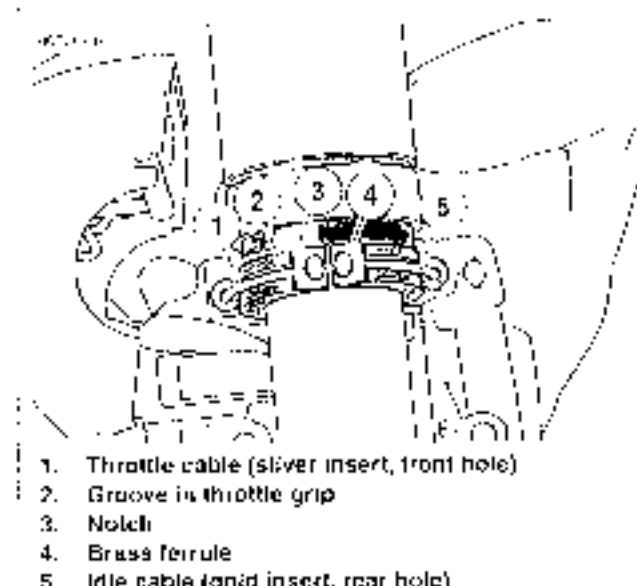

Figure 2-111. Throttle Cable Attachment
4. See Figure 2-111. Pull the cables from the housing by placing a drop of oil on the retaining ring that holds the cable in the housing; then firmly pull the retaining portion of the cable out of the housing using a rocking motion.
2. See Figure 2-111. Attach the control cable assemblies to the lower housing.